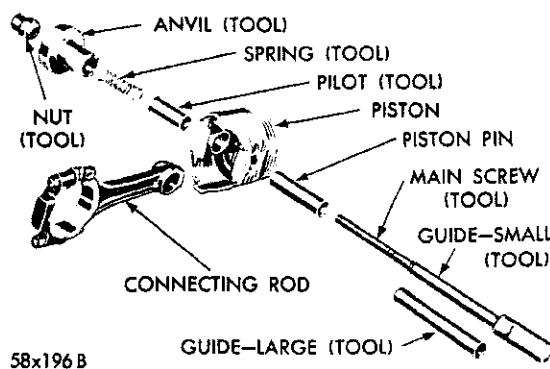

Fig. 45—Tool Arrangement for Installing Piston Pin
(1) Test the piston pin fit in the piston. It should be a sliding fit in the piston at 70 degrees F. Piston pins are supplied in standard sizes only.
(2) Lubricate the piston pin holes in the piston and connecting rod.
(3) Arrange the Tool C-3624 parts for installation of piston pin, as shown in Figure 45.
(4) Install the spring inside the pilot and install the spring and pilot in the anvil. Install the piston pin over main screw.
(5) Place the piston, with "front" up, over the pilot so that the pilot extends through the piston pin hole.
(6) Position the connecting rod over the pilot which extends through the piston hole.
(7) Install the main screw and piston pin in the piston, as shown in Figure 45.